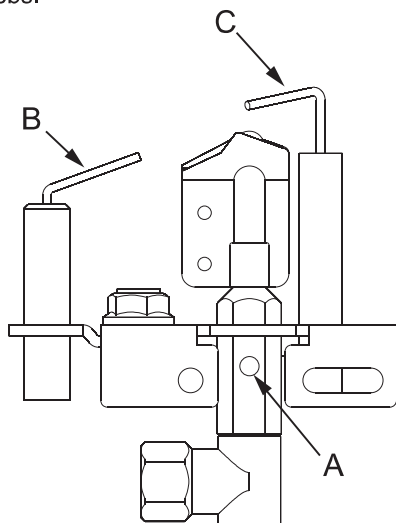

Figure 75 - Intermittent Pilot
1. Use canned air to blow through hole A. See Figures 75. This will blow out foreign materials such as dust, lint and spider webs.
2. If intermittent pilot fireplace stops working, clean flame sensor B **Figure 75** with a damp cloth.
3. If intermittent pilot ignitor does not spark, clean ignitor C **Figure 75** with a damp cloth.